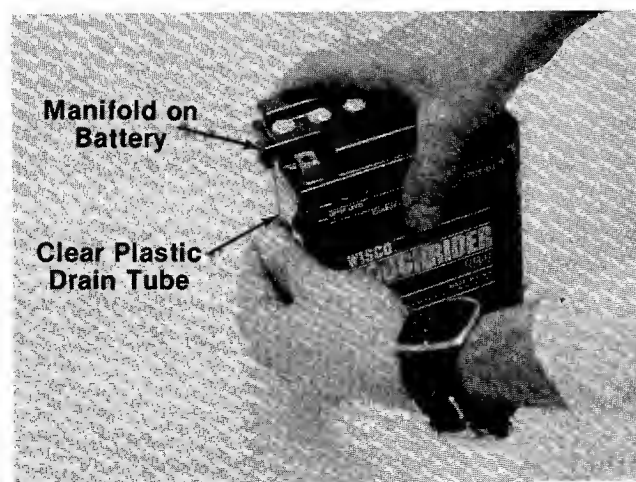

FIGURE 7.
3. Place one end of clear plastic drain tube on manifold of battery. See figure 7.